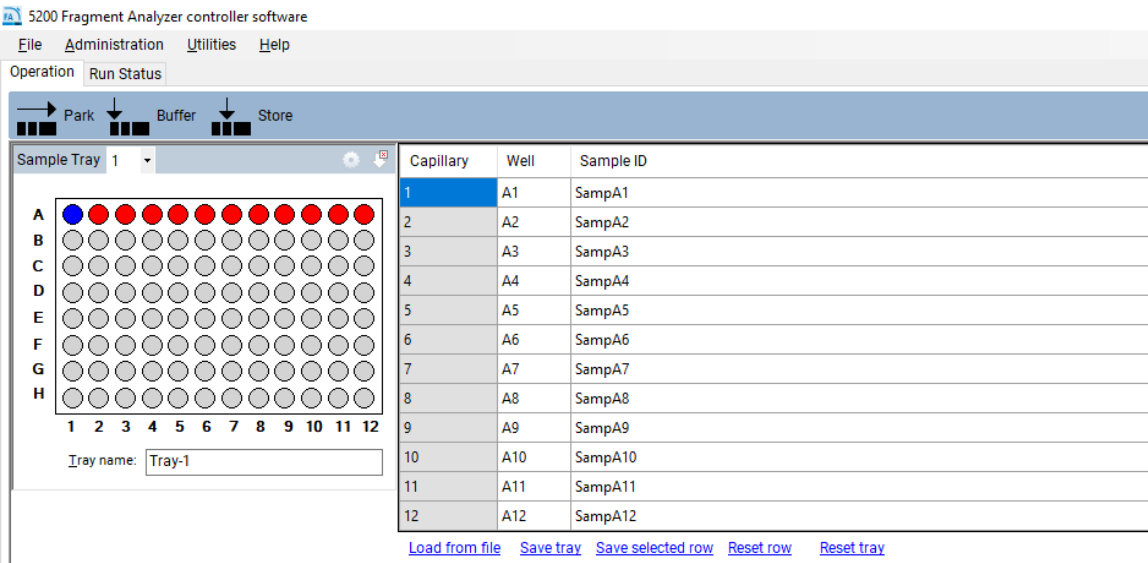

Figure 80 Adding samples names manually
- 3 Select the **Save tray** or **Save selected row** to save the file as a .txt or .csv (Figure 80).